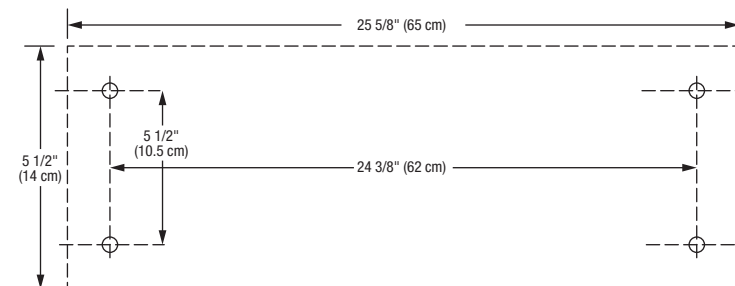

Fig. 2
MOUNTING THE LATHE ON A BENCH TOP (Fig. 2)
- In a clear space on the bench top, measure and mark four hole centres as shown in Fig. 2.